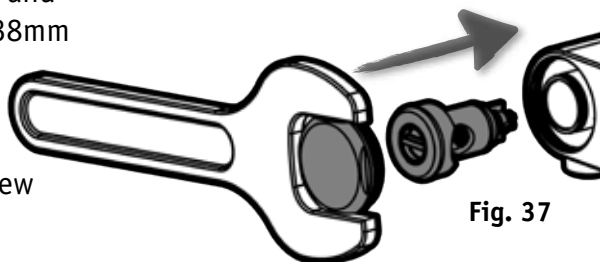

Fig. 37
4) Insert the FILTER HOUSING 21 into the end of the ARM LINER 24, ensuring correct orientation and refit the END CAP 20 using 38mm SPANNER (Fig. 37)